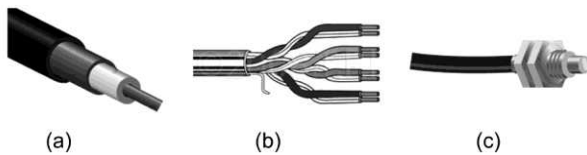

Figure 14-11 Communication link for question 44.
44. For the transmission media of Figure 14-11, identify each type shown in (a) _____, (b) _____, and (c) _____. 44a. _____